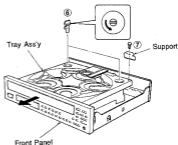

Fig. 6
- a. Turn the stopper/tray pin (⑥) counterclockwise by 90° degrees to pull it out as shown in Fig. 6.
b. Remove a plastic rivet (⑦) and then remove the Support.
c. Slowly remove the Tray Ass'y as shown in Fig. 6.